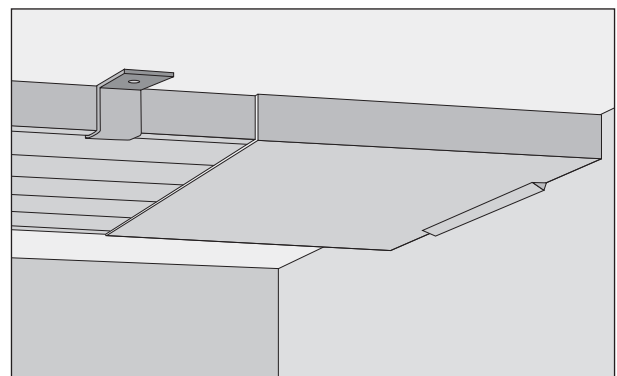

Figure 1. Atrium with connection cover (ATR-CW).
**Connection cover:** Conceals visible piping to a wall (ATR-CW; see figure 1) or in between panels (ATR-CC). Indicate the total length (in mm), between the objects, when you place your order.